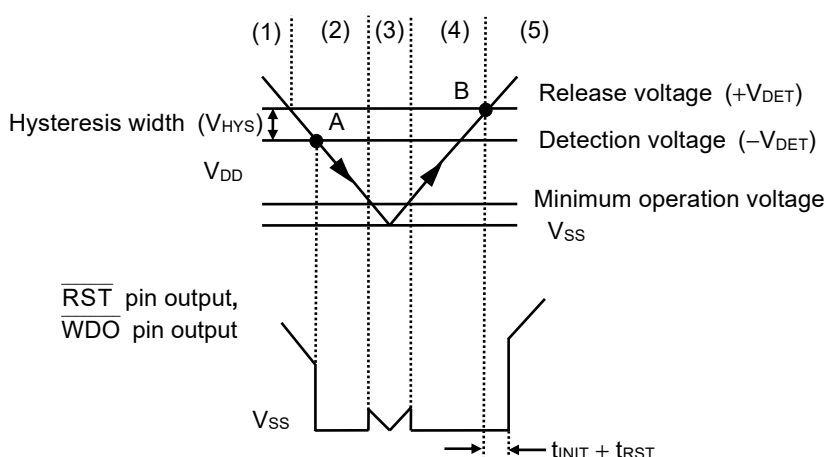

Figure 32 Timing Chart of Voltage Detector Circuit
- (1) When the power supply voltage (V_{DD}) is release voltage ($+V_{DET}$) of the detector or higher, the Nch transistor (N2) is turned off and "H" is output to the $\overline{RST}$ pin. Since the Pch transistor (P1) is turned on, the input voltage to the comparator (C1) is $\frac{R_B \cdot V_{DD}}{R_A + R_B}$.
- (2) Even if V_{DD} decreases to $+V_{DET}$ or lower, "H" is output to the $\overline{RST}$ pin when V_{DD} is the detection voltage ($-V_{DET}$) or higher. When V_{DD} decreases to $-V_{DET}$ (point A in **Figure 32**) or lower, N2 which is controlled by C1 is turned on, and then "L" is output to the $\overline{RST}$ pin. At this time, P1 is turned off, and the input voltage to C1 is $\frac{R_B \cdot V_{DD}}{R_A + R_B + R_C}$.
- (3) If V_{DD} further decreases to the IC's minimum operation voltage or lower, the $\overline{RST}$ pin output is "H".
- (4) When V_{DD} increases to the IC's minimum operation voltage or higher, "L" is output to the $\overline{RST}$ pin. In addition, even if V_{DD} exceeds $-V_{DET}$, the output is "L" when V_{DD} is lower than $+V_{DET}$.
- (5) When V_{DD} increases to $+V_{DET}$ (point B in **Figure 32**) or higher, N2 is turned off, and "H" is output to the $\overline{RST}$ pin after elapse of $t_{INIT} + t_{RST}$.